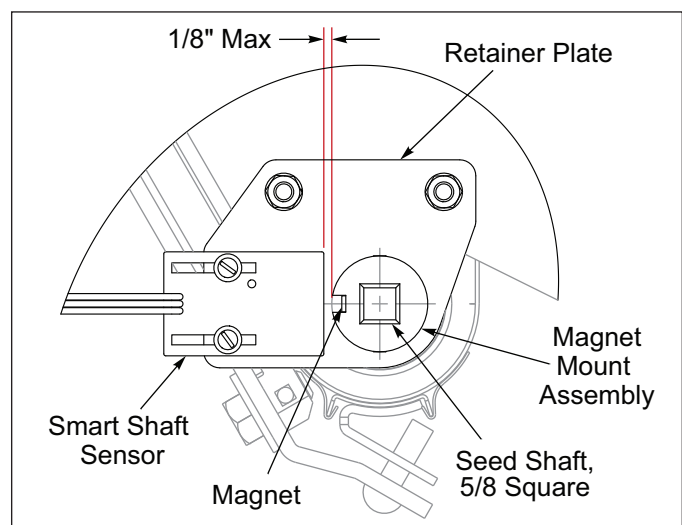
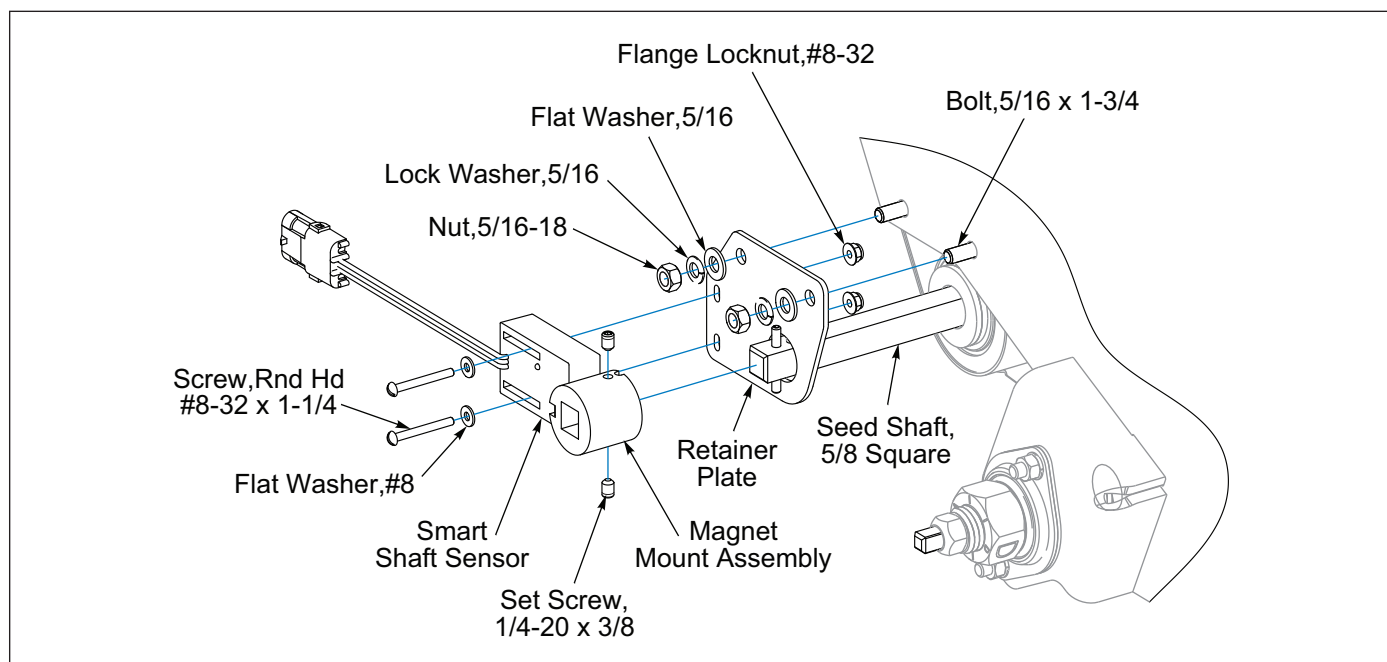

Figure 2-31: Rear Seed Box Smart Shaft Sensor Detail
Figure 2-37: Brillion Elite Mini Monitor - Rear Seed Box Seed Shaft Sensor
4. RH Brome Seed Box end, remove 3-Hole Retainer Plate and replace it with 5-Hole Retainer Plate. See Figure 2-37. Slide Magnet Mount Assembly onto Seed Shaft up tight against the Roll Pin. Secure to Seed Shaft by tightening Magnet Mount Assembly Set Screws. Install a Smart Shaft Sensor to the Retainer Plate with sensor provided hardware and #8-32 Flange Locknuts. Adjust the Smart Shaft Sensor so that it is 1/8" Max away from the Magnet Mount Assembly on the Seed Shaft. See Figure 2-31. Connect the Smart Shaft Sensor to the Seeder Harness.